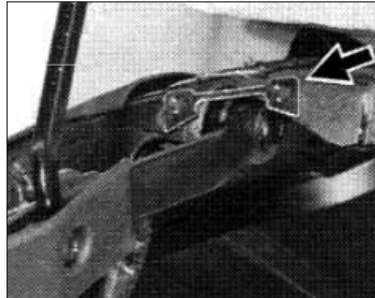

Figure 10
- Position the new tensioning strap bracket on the main bow and mark the holes for drilling. The bracket should be located approximately 1-2 mm below the upper edge of the main bow (Figure 10).